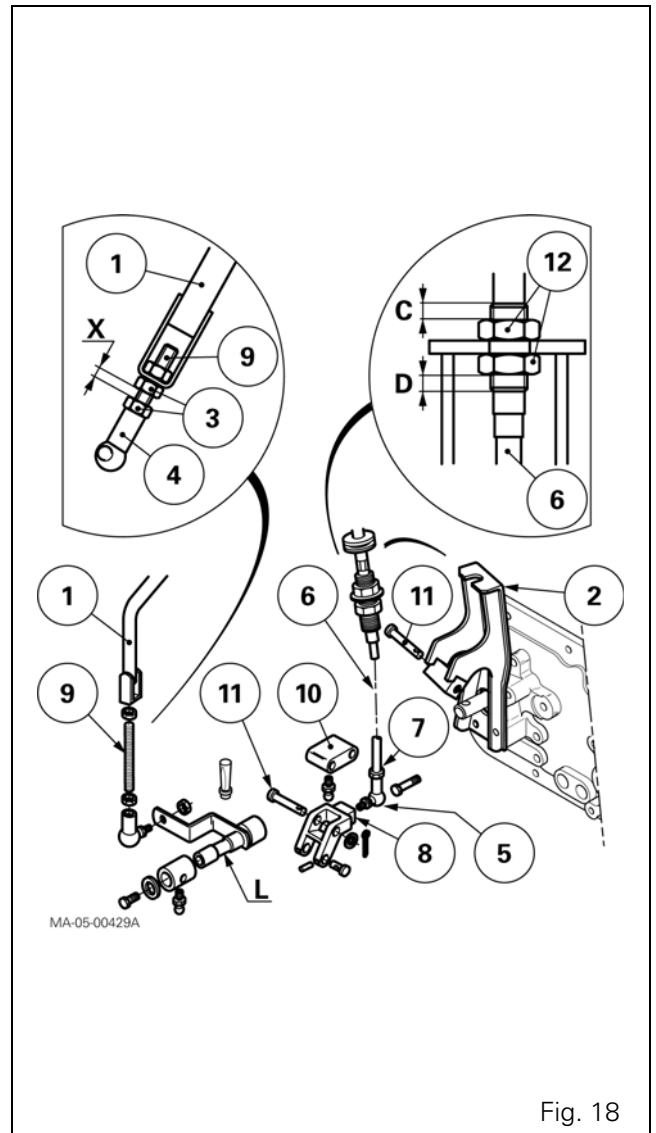
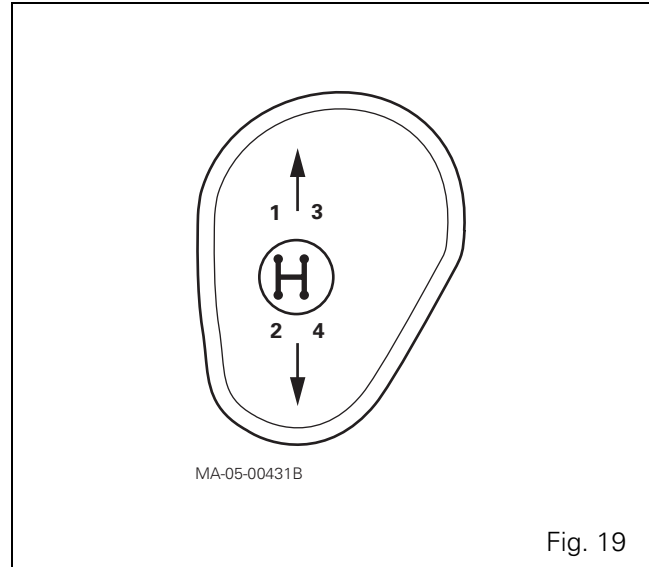
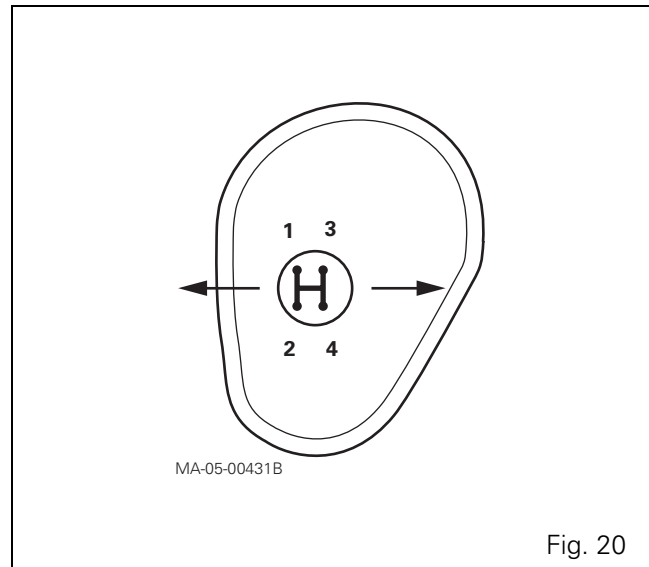

Fig. 18
Fig. 19
Fig. 20
Preparation (Fig. 18)
Assembly (Fig. 18)
81. Tighten and lock the other end of the ball joint (5) onto the cam (8).
82. On the previously fitted support (2) and lever "L", position the cam (8) and its extension block (10). Fit the pins (11), and lock them in place with new pins.
83. Fit the ball joint (4) on the lever L. Fit the washer and tighten the locknut.
Adjusting the rod (1) (Fig. 18)
84. Turn the threaded rod (9) and ball joint (4) to obtain a dimension X of $17 \pm 1 \text{ mm}$ between the two nuts (3) when they are tightened.
Adjusting the cable (6) (Fig. 18)
85. Adjust the sheath end to balance (as far as possible) dimensions "C" and "D". Tighten the nuts (12) without altering the adjustment.
86. Engage each gear ratio. During this operation, check that the lever is **never closer than 5 mm** from the edge of the console (Fig. 19 - Fig. 20).
The lever is positioned incorrectly. Readjust the rod (1) (Fig. 18) on the selector cover plate side in accordance with the following instructions:
- If the problem concerns the 1st or 3rd gear (Fig. 19), reduce dimension X (Fig. 18).
- If the problem concerns the 2nd or 4th gear (Fig. 19), increase dimension X (Fig. 18).
- If the problem concerns lateral movement of the lever between the 1-2 and 3-4 gear paths (Neutral position) (Fig. 20), adjust the cable sheath end (6) (dimensions C and D) (Fig. 18). Tighten the nuts (12).